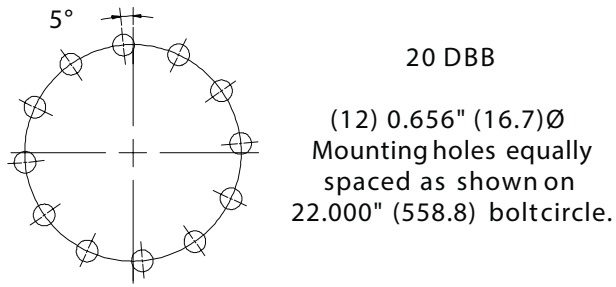

Figure 2
- 2.1.2 Figure 2 shows the mounting dimensions for the brake to the machine frame or reaction bracket.